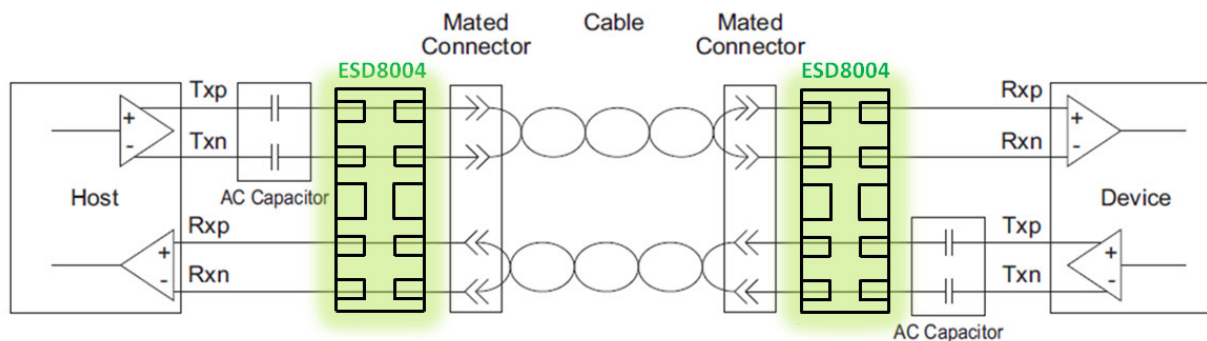

Figure 15. USB 3.0/3.1 Connection Diagram
- ♦ In USB 3.0 applications, the ESD protection device should be placed between the AC coupling capacitors and the I/O connector on the TX differential lanes as shown in Figure 15. In this configuration, no DC current can flow through the ESD protection device preventing any potential